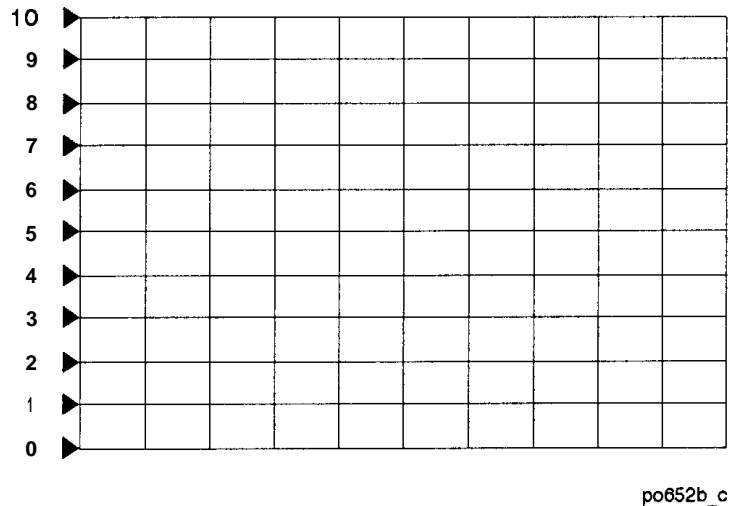

Figure 2-3. Reference Positions
4. To move the reference position (indicated by the ► symbol on the left side of the display) to the first division down from the top of the display, press **Reference Position** **9** Enter. Figure 2-3 shows how each reference position is identified.